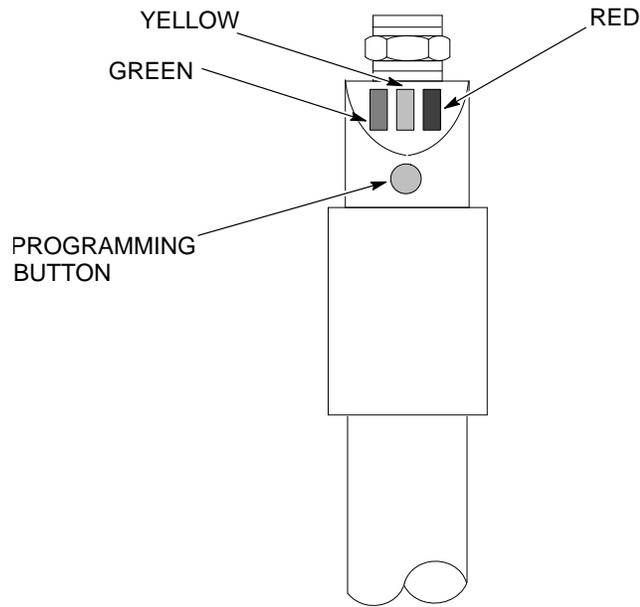

Figure 3-1 Programming the Level Sensor Probe
4. See Figure 3-1. Press the programming button until the green LED flashes slowly. When the green LED stops flashing and the yellow LED turns off, the Empty Adjustment is complete.
3. See Figure 3-1. Press the programming button until the green LED flashes quickly.